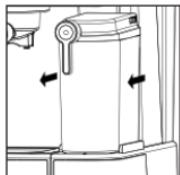
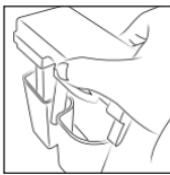
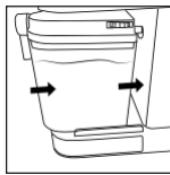
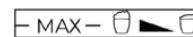

Fig. 1
Fig. 2
Fig. 3
Fig. 4
**Important!** Before making coffee for the first time it is recommended to wash the thermal block, the cappuccinator lid (12) and the milk container (11).
- Make sure that the removable tray (1) and the tray grid (2) are installed to their places.
- Remove the lid (7), remove the water tank (8).
- Fill the tank (8) with cold water up to the maximal level mark, install the tank (8) back to its place.
**Note:** the tank (8) is intended for water only, do not fill the tank (8) with other liquids, such as milk.
- Take the container (11) and pull it towards you (fig. 1), remove the cappuccinator lid (12) from the container (11) (fig. 2). Fill the container (11) with water to the maximal level mark.
**Note:** the cappuccinator container (11) is intended for milk only, do not fill the container (11) with any other liquids, use water only in the cappuccinator washing mode.
- Install the cappuccinator lid (12) on the container (11), install the cappuccinator to the installation place until the lock clicking (fig. 3).
**Note:** after installing the container (11) with the lid (12) back to its place always check if the cappuccinator is installed and fixed properly.
- Set the frothed milk dispense control knob (10) to the middle position (fig. 4).